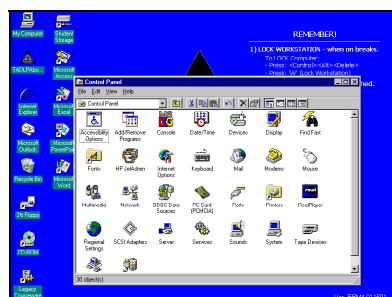

FIGURE II.13
- 13) Press the "X" in the upper right corner of this window to exit the "control panel" and close the window. (see figure II.13)